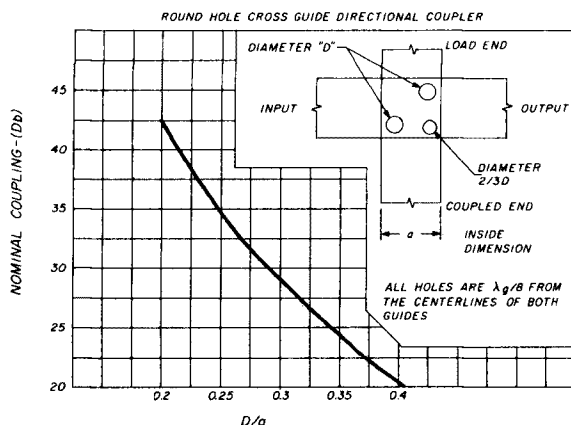

fig. 2. Graph of the relationship between the coupling factor and the physical dimensions of the waveguide and coupling holes.
The practical range of coupling in a round hole cross-guide coupler varies between 20 and 45 dB down from the incident power. Fig. 2 shows the hole arrangement relative to the coupler ports; also shown is a graph of how the coupling varies as ratio of hole diameter to guide width.^{2,3}
2. First, the center of the 10.0 to 10.5 GHz Amateur band is 10.25 GHz. Since the bandwidth of the round hole cross-guide coupler is approximately 10 per cent, the coupling coefficient should not change more than a few per cent in the 10.0 to 10.5 GHz band. The second step is to decide on the desired coupling ratio. Sources such as reflex klystrons and Gunn diodes, which have an output power in the 10 to 20 mW range, require a sampling coupler to have a coupling ratio of 25 dB or greater. This will keep the power level into the detector in the square-law region. Referring to the graph in fig. 2, the D/a ratio for 26 dB is 0.335, where a is the broad dimension of the waveguide. For WR-90 waveguide (*i.e.*, X-band guide), the broad dimension, a , is 22.86 mm (0.900 inch). The large hole diameter is: